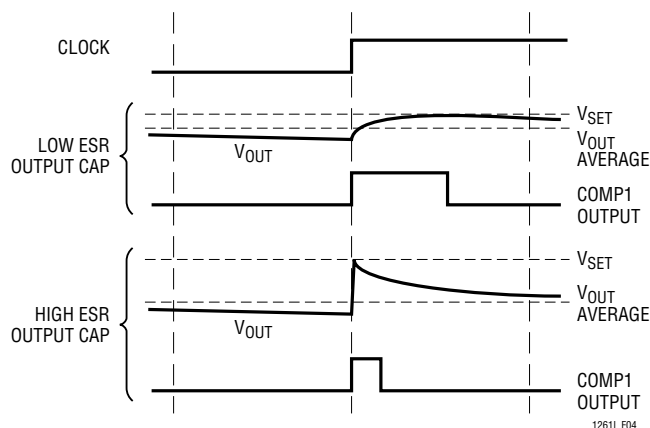

Figure 4. Output Ripple with Low and High ESR Capacitors
3.3 $\mu$ F tantalum capacitor has 1 $\Omega$  or 2 $\Omega$  of ESR; 100mA  $\times$  2 $\Omega$  = 200mV. If the output is within 200mV of the set point this additional 200mV surge will trip the feedback comparator and terminate the charging cycle. The pulse dissipates quickly and the comparator returns to the correct state, but the RS latch will not allow the charge pump to respond until the next clock edge. This prevents the charge pump from going into very high frequency oscillation under such conditions but it also creates an output error as the feedback loop regulates based on the top of the spike, not the average value of the output (Figure 4). The resulting output voltage behaves as if a resistor of value  $C_{ESR} \times (I_{PK}/I_{AVE})\Omega$  was placed in series with the output. To avoid this nasty sequence of events, connect a 0.1 $\mu$ F ceramic capacitor in parallel with the larger output capacitor. The ceramic capacitor will “eat” the high frequency spike, preventing it from fooling the feedback loop, while the larger but slower tantalum or aluminum output capacitor supplies output current to the load between charge cycles.